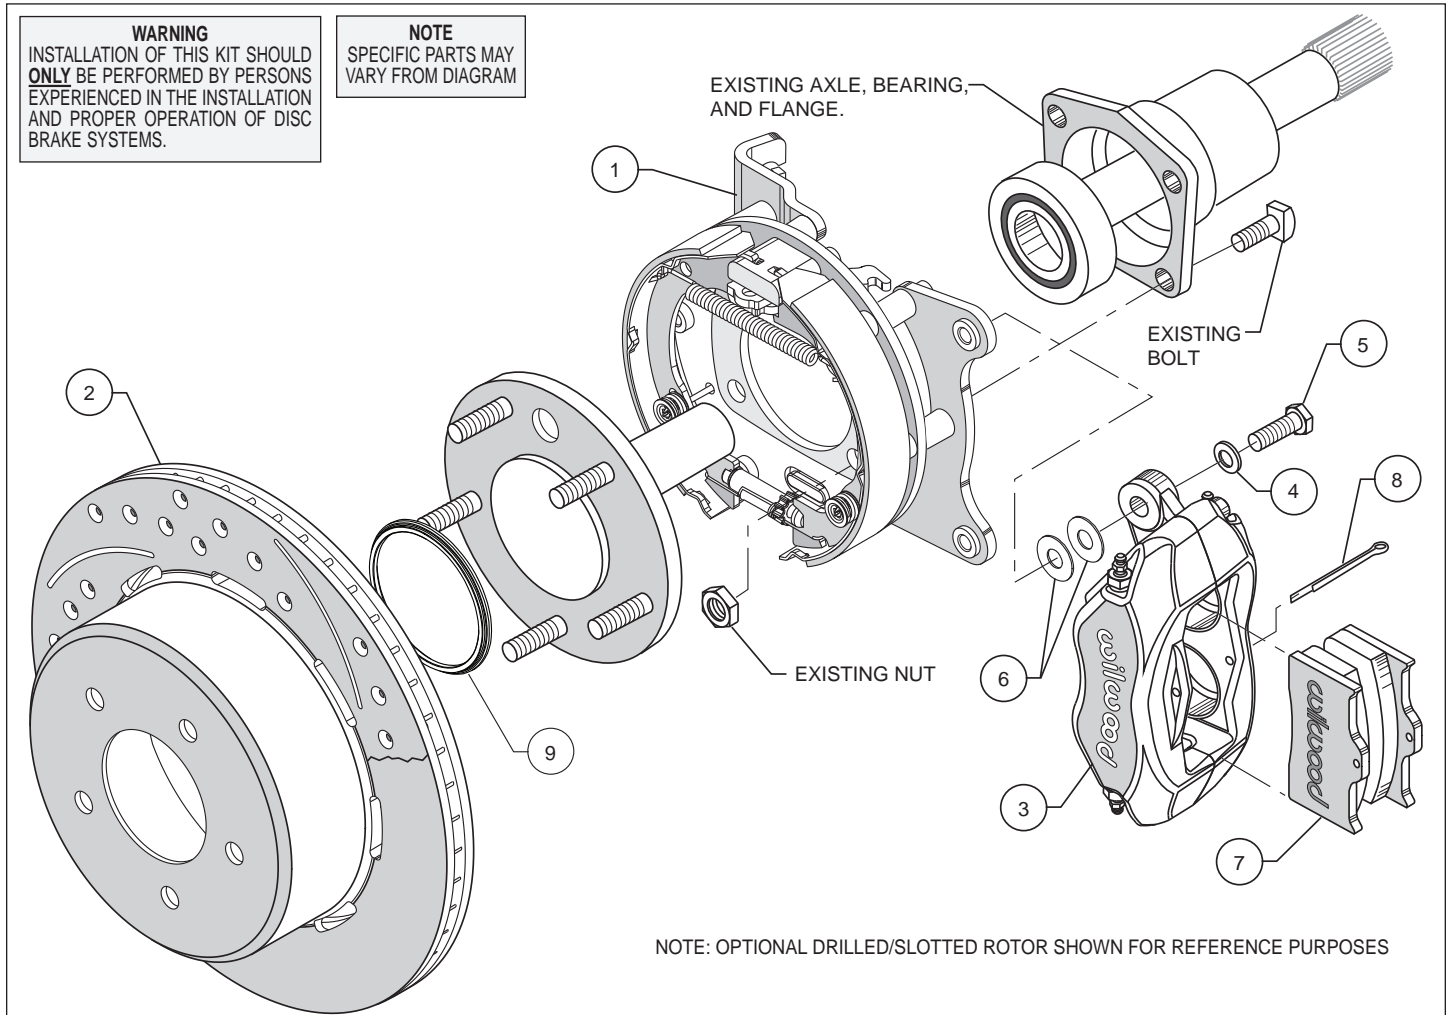
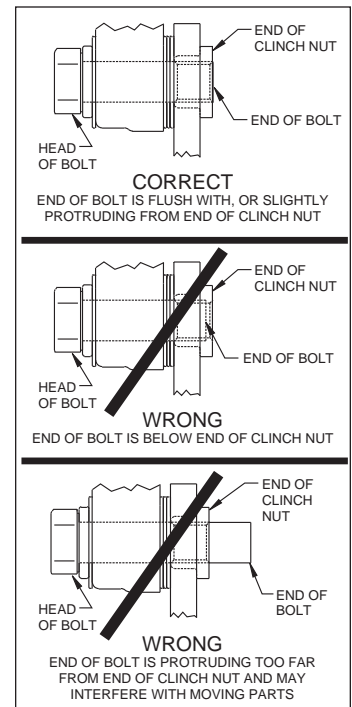

Figure 1. Typical Installation Configuration
Figure 4. Clinch Nut Engagement Diagram
Assembly Instructions (numbers in parenthesis refer to the parts list, and Figure 1 on the preceding pages): **CAUTION:** All mounting bolts must fully engage clinch nuts. Be sure to check that all bolts are either flush or protruding through flanged side of clinch nut after shimming, Figure 4.
- Orient the bracket assembly (1), as shown in Figure 1, and mount to the axle housing flange using the Original Equipment Manufacturer (OEM) bolts and nuts, Figure 1. Ensure that the bracket assembly backing plate fits flush against the axle housing flange. Apply red *Loctite*® 271 to the OEM bolt threads and torque to OEM specifications.
- Slide the rotor registration adapter (9) onto the axle register on the axle flange with the smaller O.D. facing toward the rotor/hat (2), Photo 1. Align the correct hole pattern in the rotor/hat with the stud pattern on the axle flange and slide into place, Figure 1 and Photo 2. **NOTE:** The rotor/hat must fit flush against the axle flange or excessive rotor run out may result. Install three lug nuts (finger tight) to keep the rotor/hat assembly in place while continuing with the installation.
•**NOTE:** Please reference the caution statement at the beginning of the assembly instructions. Mount the caliper (3) onto the caliper mounting bracket (1) using bolts (5) and washers (4), as shown in Figure 1. Initially place two .035" thick shims (6) on each bolt between the caliper and the bracket, Photo 3. Temporarily tighten the mounting bolts and view the rotor (2) through the top opening of the caliper. The rotor should be centered in the caliper, Photo 4. If not, adjust by adding or subtracting shims between the bracket and the caliper. Always use the same amount of shims on each of the two mounting bolts. **NOTE:** The end of each bolt must be flush with or slightly protruding from the head of the clinch nut, as shown in Figure 4. If necessary place spare shims between washer (4) and caliper mounting ear to achieve the proper clinch nut engagement. Once the caliper alignment and clinch nut engagement are correct, remove the bolts one at a time, apply red *Loctite*® 271 to bolt threads, and torque to 40 ft-lb.